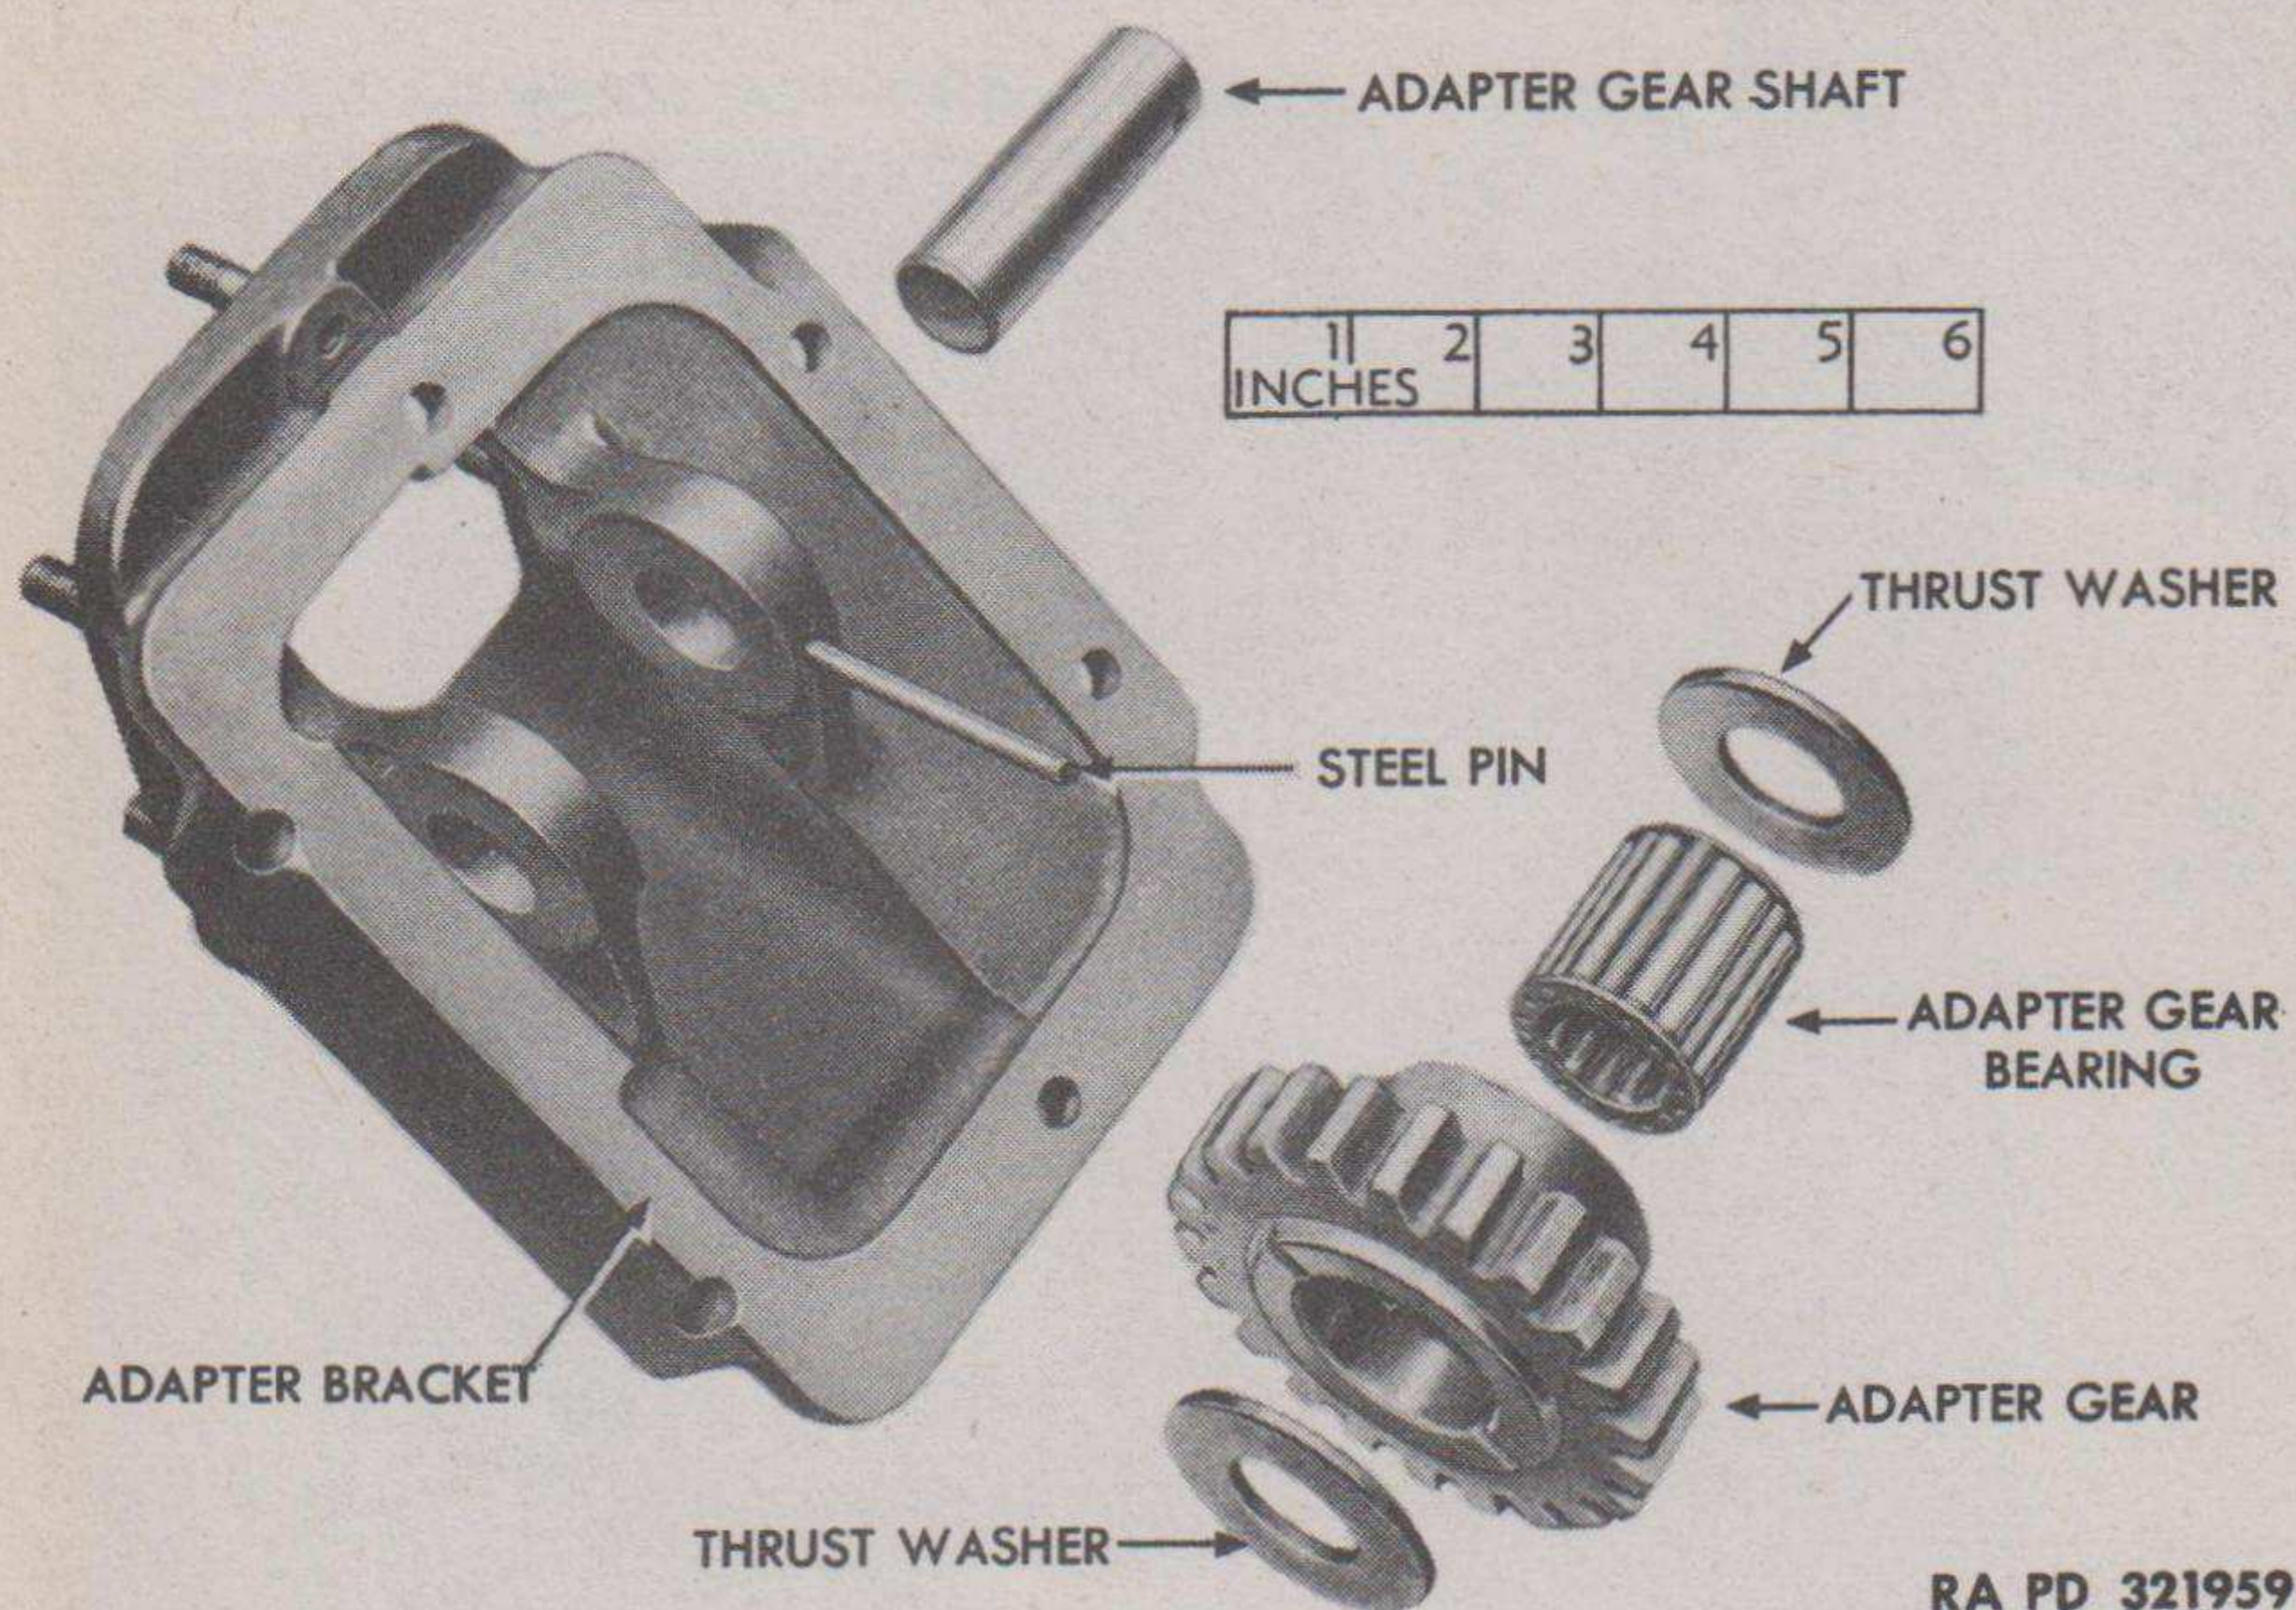

Figure 20 — Power Take-off Adapter Disassembled
(1) **REMOVE ADAPTER GEAR** (fig. 20). Tap steel pin out of adapter bracket and gear shaft. Tap out gear shaft and lift adapter gear and thrust washers out of bracket. Slide adapter gear bearing from bore of gear.
(1) **INSTALL ADAPTER GEAR** (fig. 20). Slide adapter gear bearing into bore of gear. Position thrust washers and gear in adapter bracket and install gear shaft. Tap steel pin through bracket and gear shaft. Peen both ends of pin.